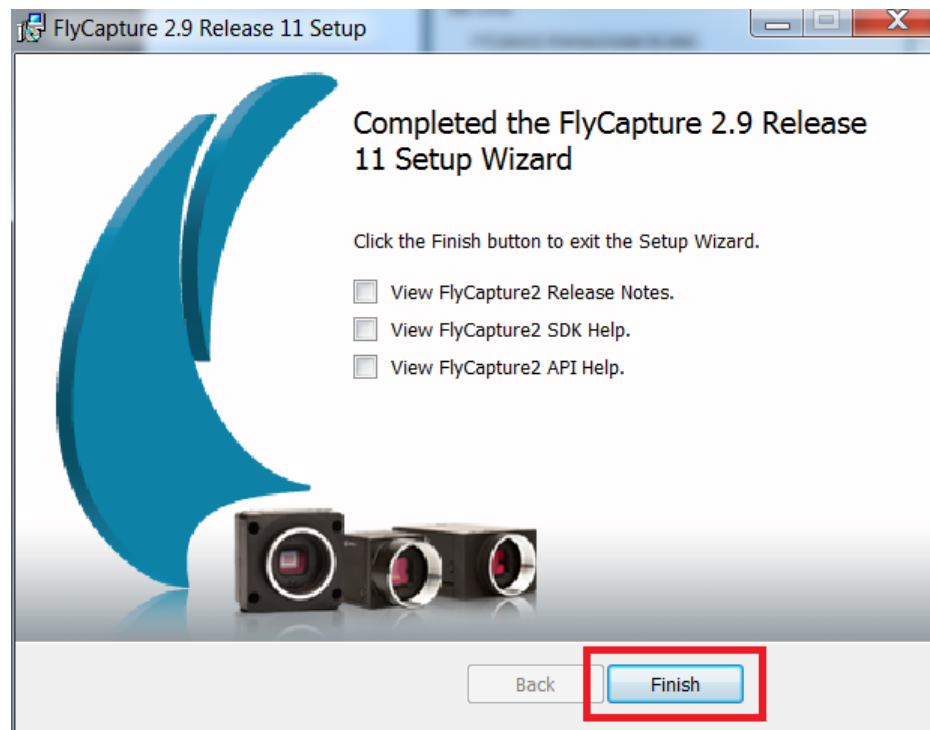

Figure 2-14. FlyCapture2 SDK Finish Installation
14. After the installation is complete, click the "Finish" button shown in Figure 2-14.